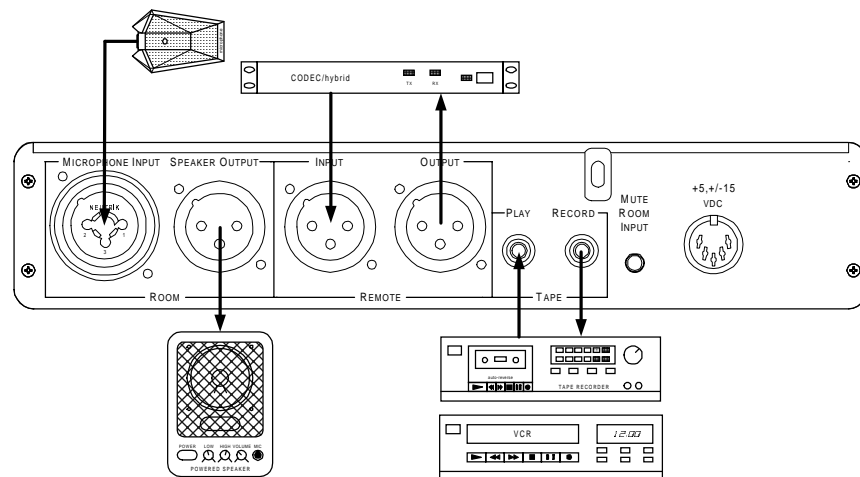

Figure 2. Connection of typical external equipment to the EF400.
Certain equipment and connections are required for the EF400 to be fully operational. (Figure 2 depicts typical connections.) Complete the following steps to make all the required connections:
3. If you have not already done so, connect the terminal equipment to the REMOTE INPUT and REMOTE OUTPUT as shown in Figure 2.